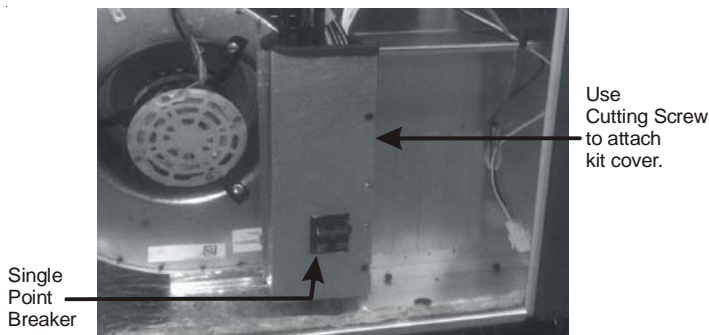

Figure 4
16. Place the cover on the kit as shown in Figure 4. Drive the cutting screw provided with the single point kit to attach the cover using the hole shown in Figure 4. Once the hole is made, remove the cutting screw and replace with the blunt tip screw also provided with the kit.